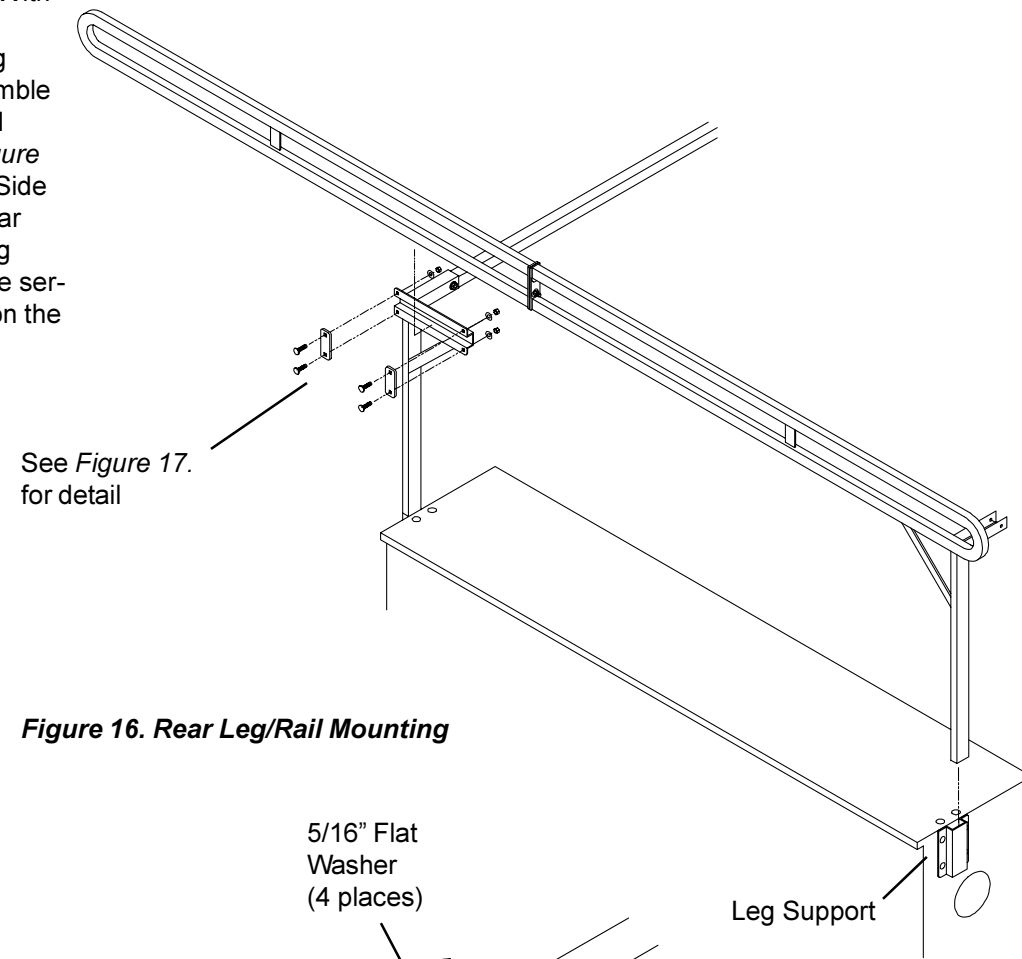
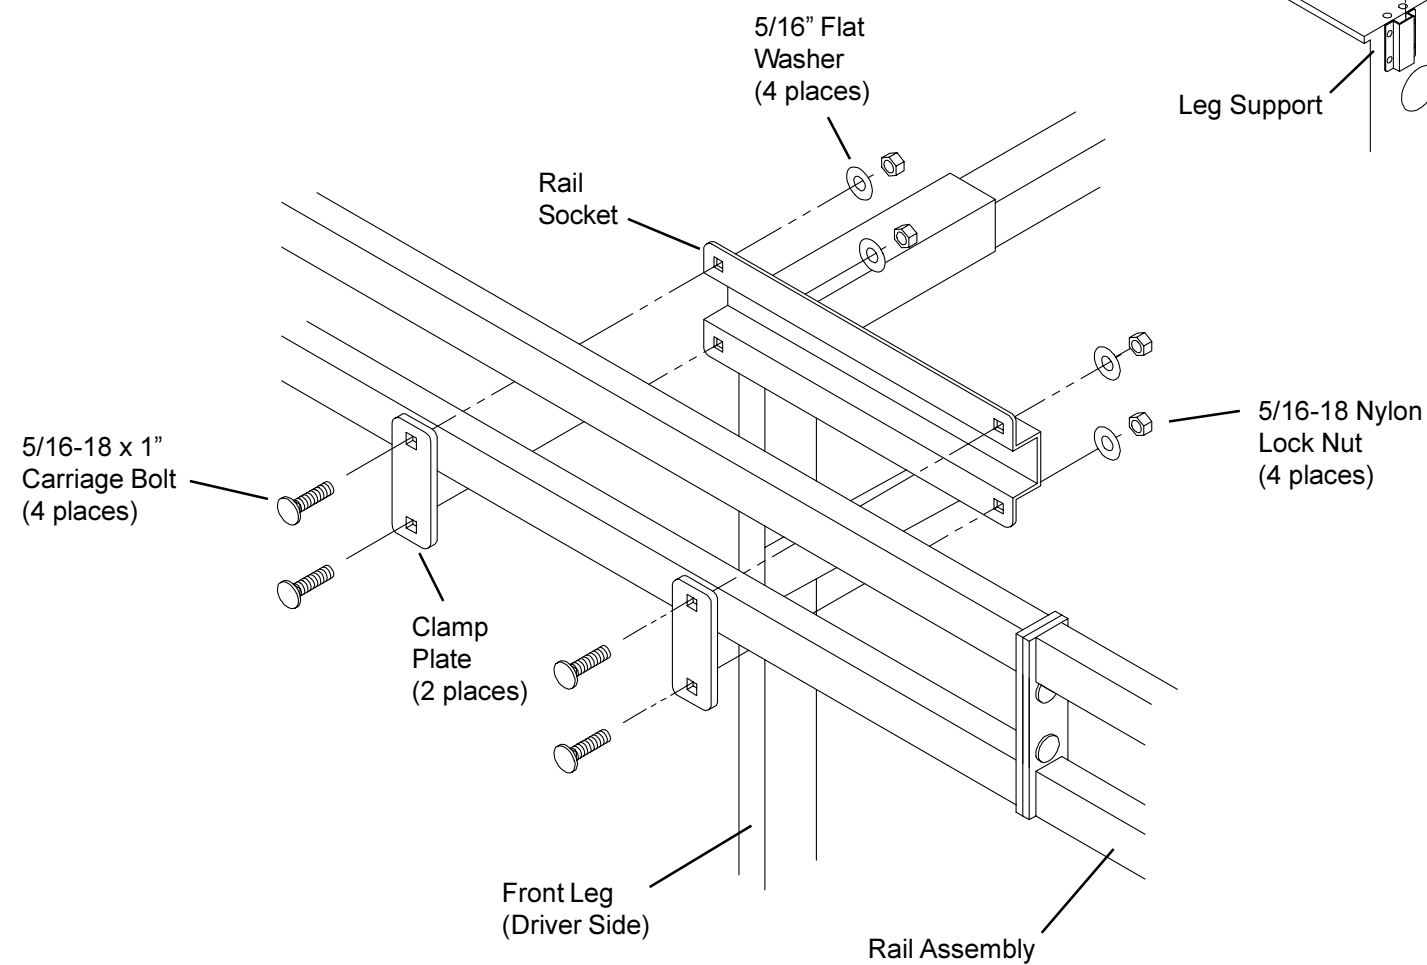

**Figure 14. Rail Fastening - Passenger Side only shown - repeat this for other Rail halves**
**Figure 15. Rail Fastening Detail**
**6. Rail Fastening** - Bolt the front Rail and Rear Leg/Rail Weldment halves together using two bolts per rail (see Figure 14. and detail Figure 15.).